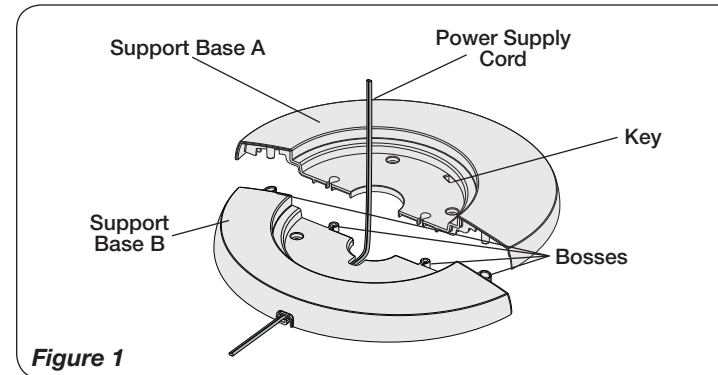

Figure 1
2. Assemble the Support Bases by interlocking the *Bosses* on *Support Base A* into the *Boss Holes* on *Support Base B*. Thread the *Power Supply Cord* through the large hole in the center of the *Support Base Assembly*. (Figure 1)